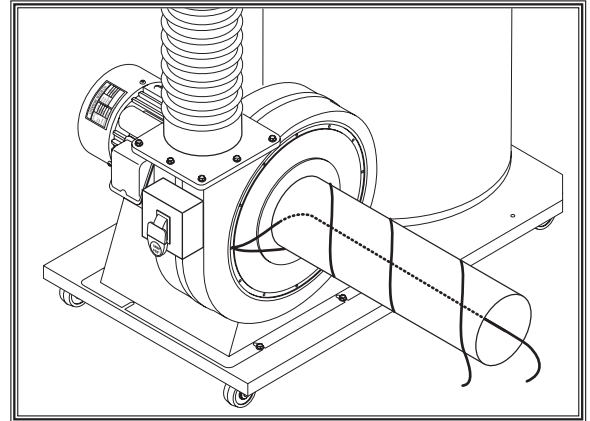
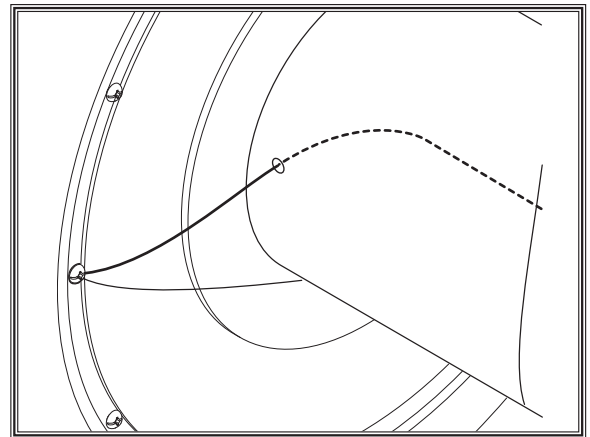

Figure 21. Typical dust collector with ground wire installed inside and around pipe.
Figure 22. Typical dust collector impeller housing with ground wires secured to the housing.
- **Second**, for plastic pipe or hose ducting systems, install an uncoated bare copper wire inside the entire length of all ducting. An additional wire must be spiral-wrapped on the outside of all the ducting (see **Figure 21**). Both wires must be connected to the dust collector impeller housing (see **Figure 22**) so all static electricity inside and out of the ducting is carried through the wires and dissipated through the dust collector ground.